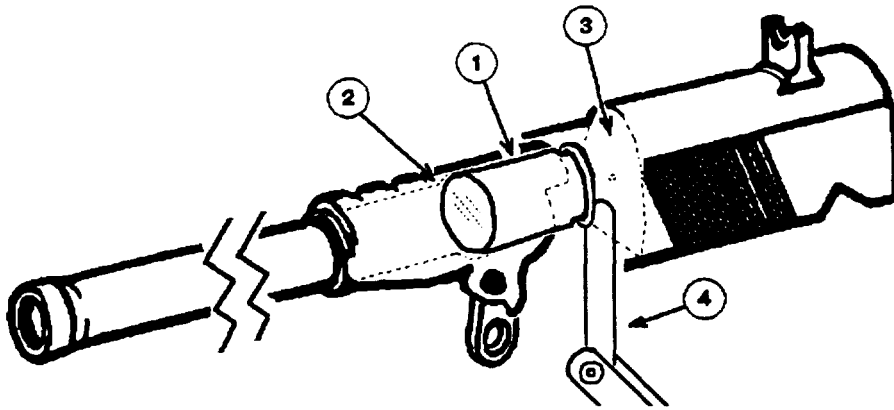

Figure 6-20. Checking Headspace
(2) The headspace gage (1), Figure 6-20, indicates the wear on the shoulder of the chamber (2) by measuring the distance between the rear of the headspace gage and the face of the slide (3). The headspace distance will also indicate wear on the locking recesses (not shown). Insert feeler gage (4) between headspace gage (1) and face of slide (3). The headspace distance is correct if the GO-NO GO distance is between .903 minimum and .925 maximum. If headspace distance is too much or not enough, evacuate the pistol to special fifth echelon maintenance for replacement of the slide and/or slide assembly.